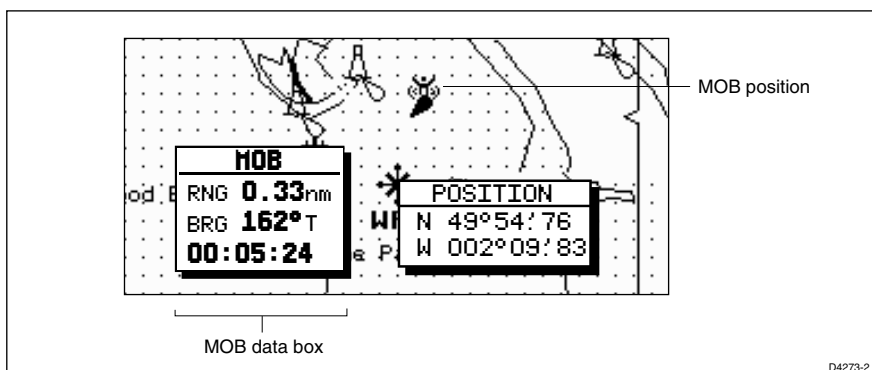

Figure 4-3: MOB Display
- Displays the MOB data box, showing the bearing and distance from your vessel to the MOB waypoint position, and the elapsed time since the MOB was initiated (*Figure 4-3*).